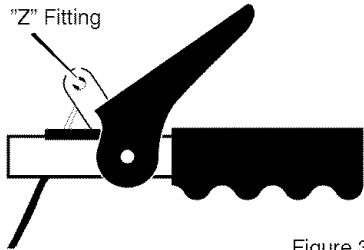

Figure 33
To check for correct adjustment, unhook "Z" fitting at clutch lever (see Figure 33).
5. Disconnect the "**Z**" fitting from the **drive lever** (see Figure 33).
11. Install the "**Z**" hook to the **traction drive lever** (see Figure 33).